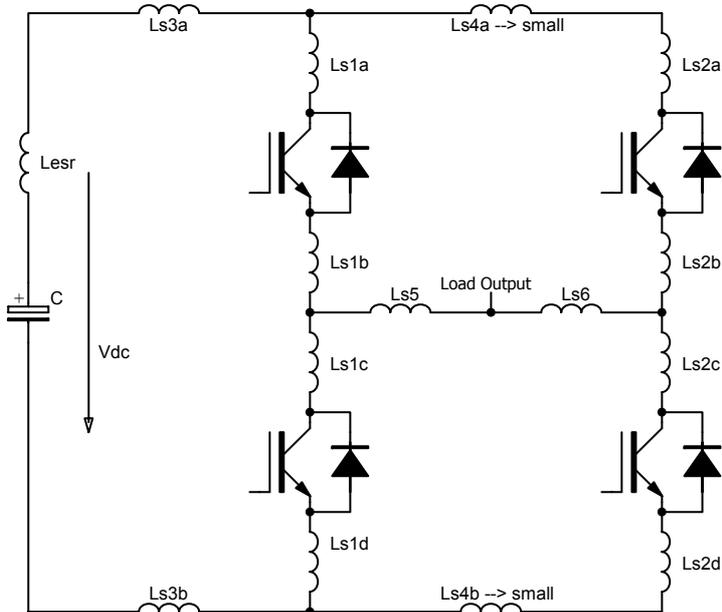

Fig. 15: Half-bridge topology with stray inductances
- The converter should be constructed as symmetrically as possible with respect to the paralleled IGBT modules in order to ensure symmetrical operation. The DC-link stray inductance of each paralleled IGBT module in particular should be similar ($L_{s1} \approx L_{s2}$, $L_{s5} \approx L_{s6}$ in Fig. 15).